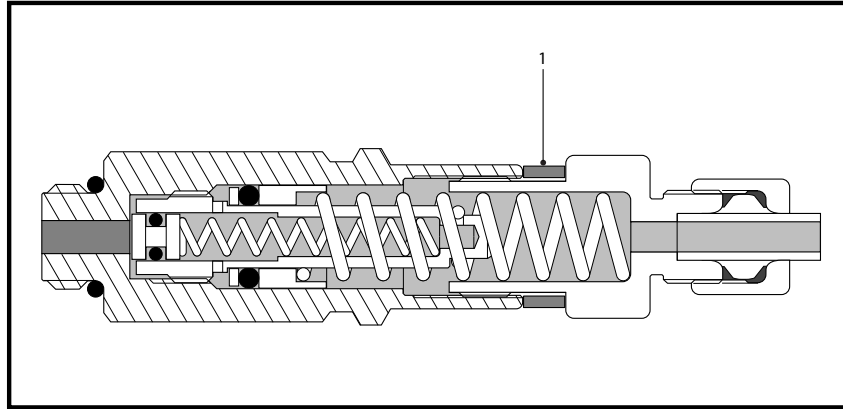

fig 7.3 Metering unit in initial position
Figure 7.3 illustrates a new metering unit. One that has not yet been filled with grease. Item (1) is the spacer, which determines the delivery of the metering unit (see paragraph 7.2).
The grease is pumped via the primary line and the distribution block into the channel (1) of the metering unit. The grease pressure pushes plunger (4) past channel (2). The grease now fills chamber (3) and pushes plunger (5) to the right. The stroke length of plunger (5) determines the amount of grease that will be pressed through the secondary line to the grease point. This stroke length, hence the capacity of chamber (3), is determined by the number and thickness of the spacers (Figure 7.3/1).